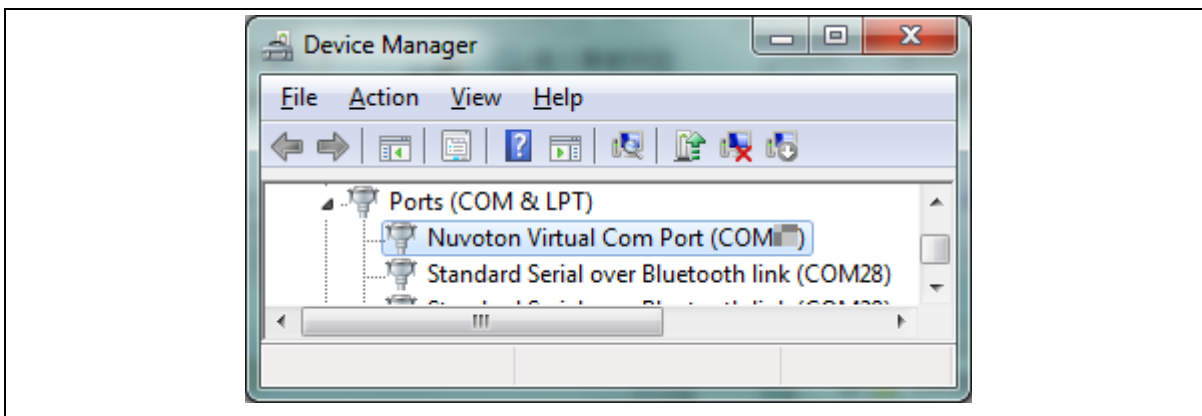

Figure 4-7 Device Manger
2. Find the "Nuvoton Virtual COM Port" on the Device Manger as Figure 4-7.